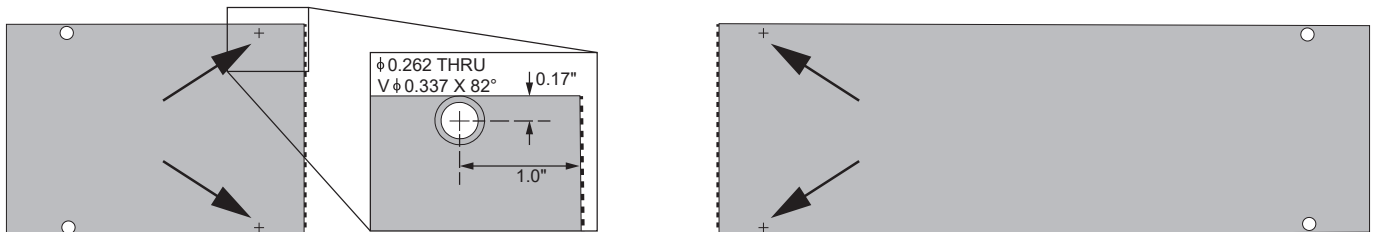

Figure 9-7
- 9g Drill (Drill# G) and Counter sink fastener holes near the Aluminum Filler plate cut edges as shown. Refer Fig. 9-7 for reference dimensions. Be careful not to break through the edge of Aluminum filler plate with drill hole or countersink.